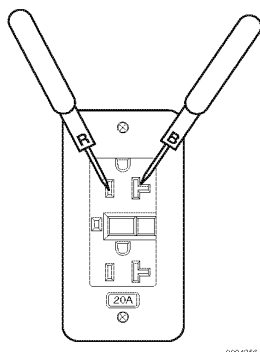

Figure 7-7
All models are equipped with one 120VAC GFCI receptacle (**Figure 7-7**). The GFCI receptacle is protected by a Ground Fault Circuit Interrupter (GFCI) unit.
2. Using a test meter set to read AC voltage, check each of the outlets for output voltage at the 120VAC receptacles (**Figure 7-7**). The polarity of the test leads are not critical.